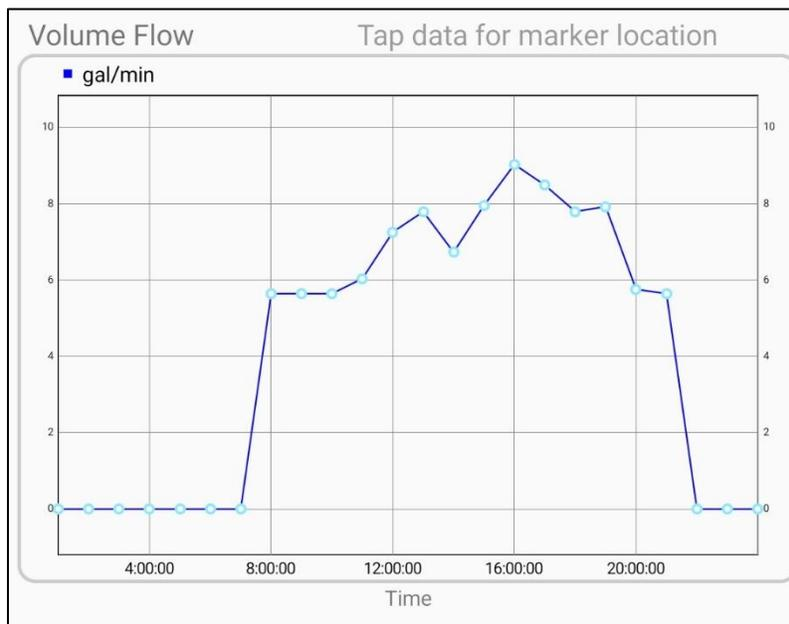
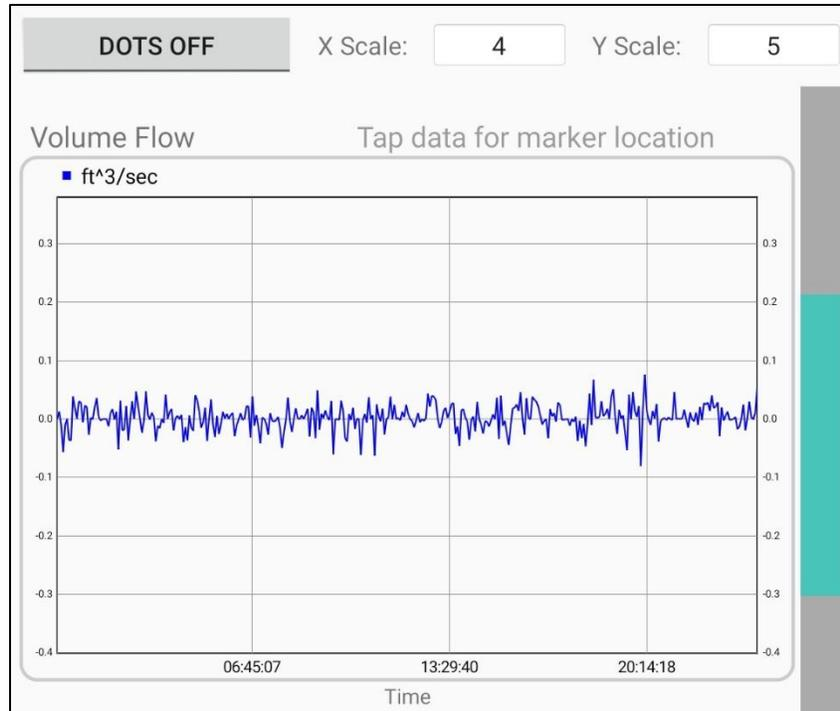

Figure 20: Log Chart Data - With Dots On
Figure 23: Log Chart Data - Increased X and Y Scaling
- Figure 23 shows the same data set with the Y scaling set to 5 and the X scaling set to 4. The X scaling now shows only every fourth data point from the original data set in Figure 20. This is useful where the data is packed too tightly on the X axis. This provides an X axis "zoom" effect that still allows viewing of the entire graph at once.